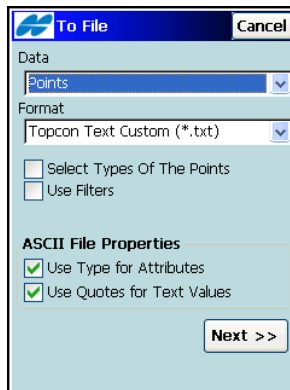

Figure 5-29. To File
2. If the Text file type is chosen, check and enable the *ASCII File Properties* field boxes, if necessary (Figure 5-29). These conditions use the same type for the attributes and quotes for the text values.